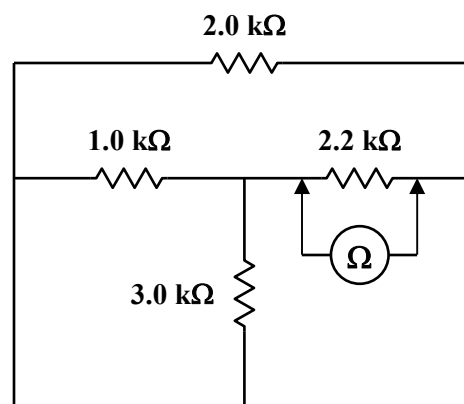

Figure 3.4
19. Construct the resistive network shown in **Figure 3.4**. Measure the resistance across the 2.2-k Ω resistor as shown. Record in **Table 3-4**.
- In lab, the circuit in **Figure 3.4** was built, and then an ohmmeter was placed across the 2.2-k Ω resistor. Explain why the value measured was not 2.2 k Ω (**Step 19, Table 3-4**)? Make a sketch to better illustrate the actual resistance being measured. Using the actual resistor values, *calculate* the value that should have been measured.